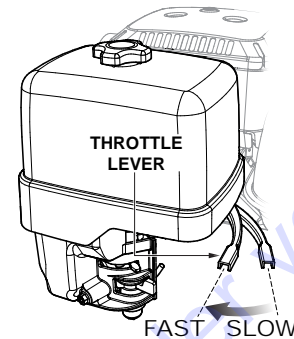

Figure 28. Throttle Lever (Idle)
1. Place the throttle lever (Figure 28) in the slow (idle) position, and let the engine idle 3-5 minutes.